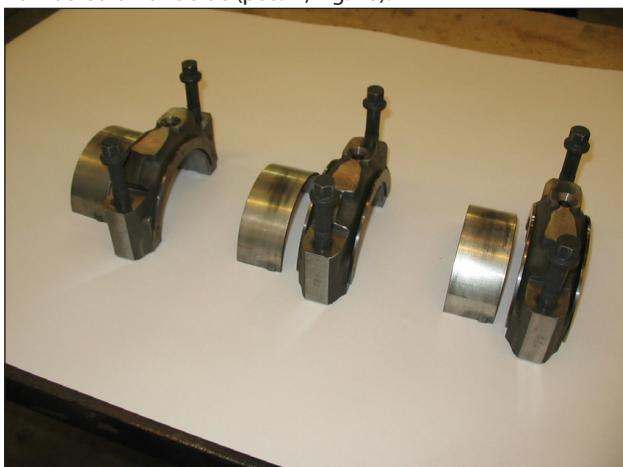

Fig. 18
To avoid possible errors, caps and half-conrods have been numbered on one side (pos. ①, Fig. 18).